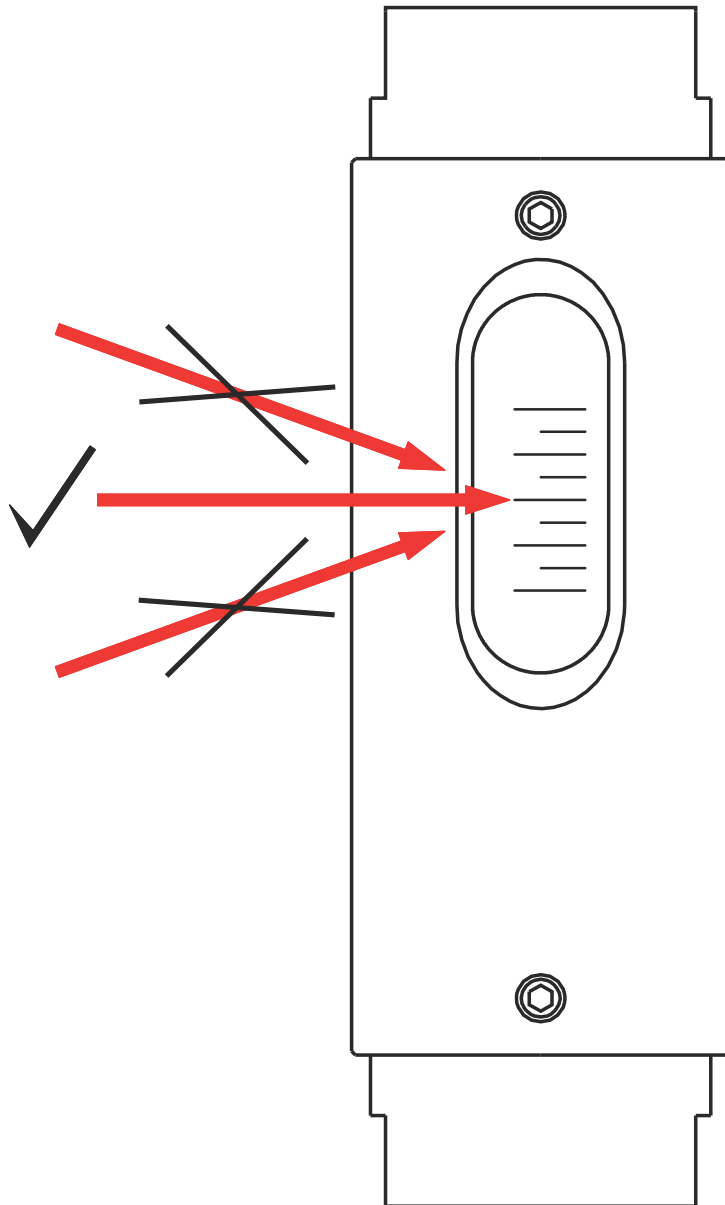

Fig. 40: Reading-off the measuring scale
2. → To obtain greatest reading accuracy, read-off at eye level. (Fig. 40, middle arrow). The read-off value can be falsified by viewing at an angle